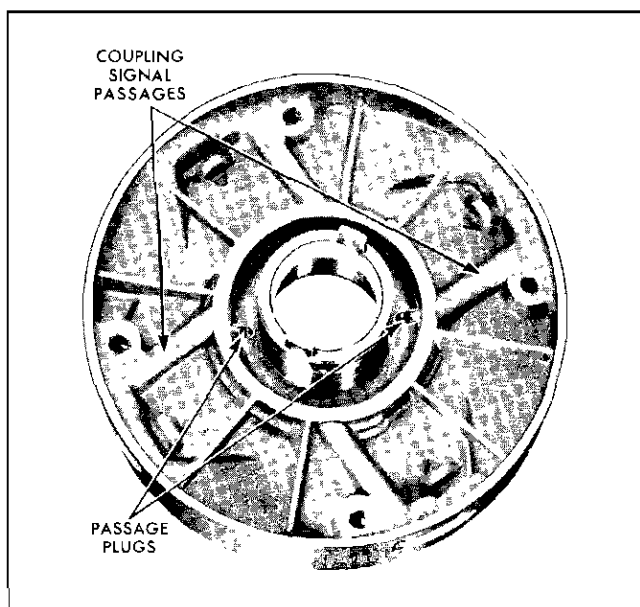

Fig. 120 Plugs in Exhaust Valve Signal Oil Passages in Coupling Cover
5. Inspect front unit torus coupling cover for burrs or scratches on outer diameter caused by removal of cover. Burrs or scratches can usually be cleaned up with crocus cloth. Check for excessive wear of bushing in cover and condition of hook type ring and ring land. Inspect oil seal grooves of cover hub to ensure they are not damaged. Make sure signal oil passages in coupling cover are open and that plugs are in place (Fig. 120)